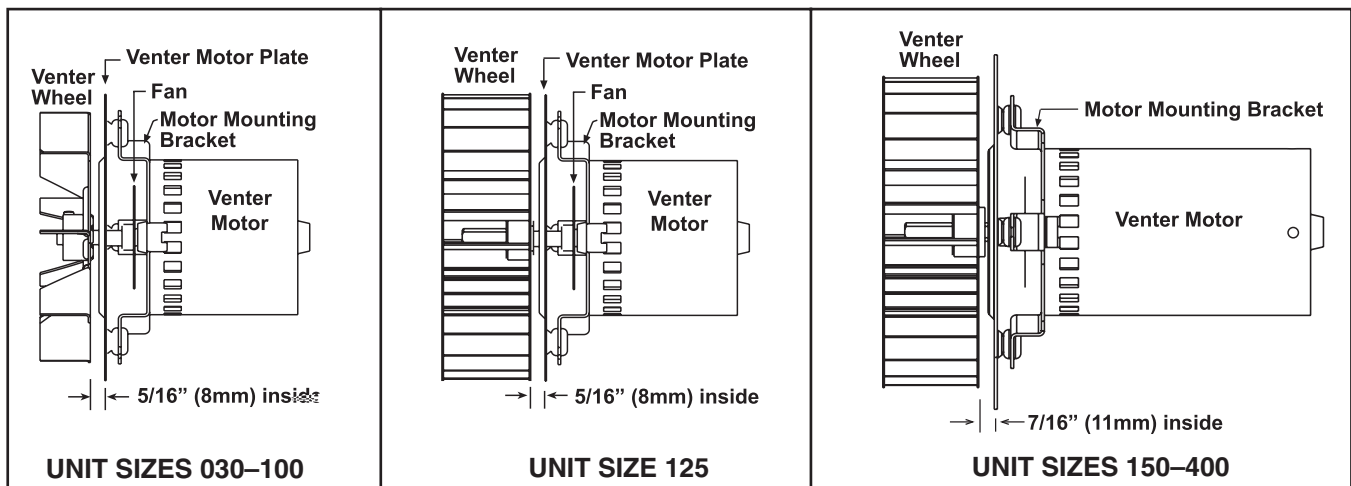

Figure 18. Venter Motor and Wheel Assembly
6. Reassemble with replacement venter motor and wheel. Ensure that venter wheel is properly positioned on shaft (see Figure 18).